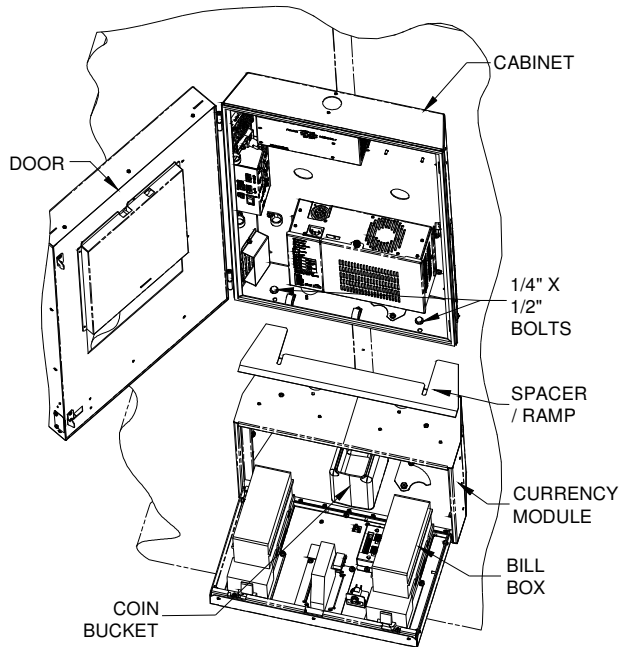

Figure 3-B – Mounting the Currency Module
6. Remove the Currency Module from its packing carton and open the door. Remove the coin bucket and remove the bill box from the bill acceptor (see *Figure 3-B*).
Locate the two 1/4" x 20 x 1/2" bolts packed with the Currency Module. Position and hold the Currency Module directly below the jukebox and start threading both bolts from the inside bottom of the jukebox into the top of the Currency Module. Do not tighten the bolts yet. See *Figure 3-B*.
8. Locate the black spacer packed with the Currency Module (see *Figure 3-B*). Slide the spacer in between the top of the Currency Module and the bottom of the jukebox cabinet. Ensure the ramp at the front of the spacer is oriented properly and the spacer is pushed all the way back. Tighten the 1/4" bolts.